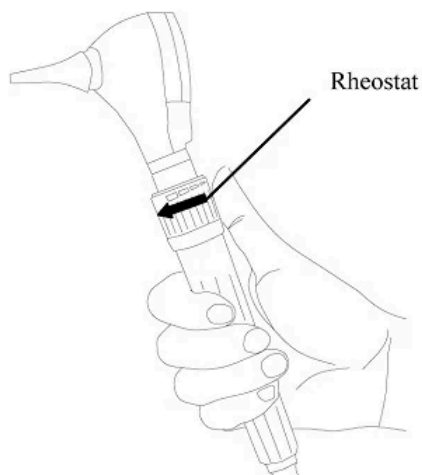

Fig.4
2.2.4 Rotate the rheostat section to select the desired brightness. See from Fig.4.